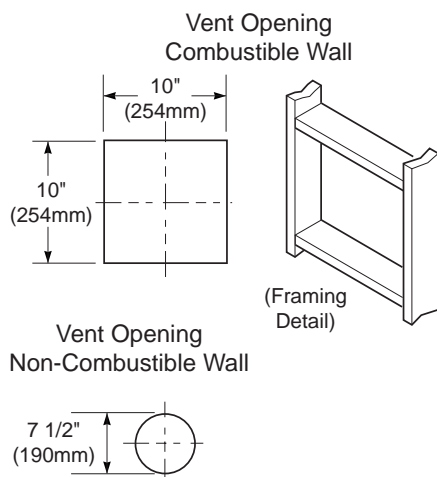
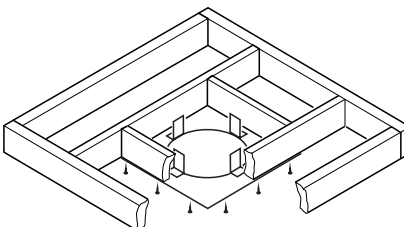

Figure 12 - Vent Opening Requirements
Figure 22 - Installing Firestop
3. Attach vent pipe assembly to the fireplace. Set fireplace in front of its permanent location to insure minimum clearances. Mark the wall for a 10" square hole (for noncombustible material such as masonry block or concrete, a 7 1/2" diameter hole is acceptable). See Figure 12. The center of the hole should line up with the centerline of the horizontal rigid vent pipe. Cut a 10"x10" (254mm x 254mm) square hole through combustible exterior wall (7 1/2" [190mm] diameter hole if noncombustible). Frame as necessary (see Figure 12).
1. Cut a 10" square hole in the ceiling using the locating hole as a center point. The opening should be framed to 10"x10" (254mm x 254mm) inside dimensions, as shown in Figure 12 on page 9 using framing lumber the same size as the ceiling joists. If the area above the ceiling is an insulated ceiling or a room, nail firestop from the top side. This prevents loose insulation from falling into the required clearance space. Otherwise, install firestop below the framed hole. The firestop should be installed with no less than three nails per side (see Figure 22).
3. Cut a hole in the roof using the locating hole as a center point. (Cover any exposed open vent pipes before cutting hole in roof.) The 10"x10" hole must be measured on the horizontal; actual length may be larger depending on the pitch of the roof. There must be a 1" clearance from the vent pipe to combustible materials. Frame the opening as shown in Figure 12 on page 9.